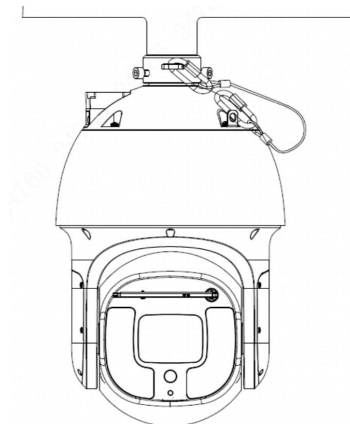

Figure 2-4
Step 4 Confirm that the screws on the quick mounting connector are firmly tightened, the safety buckle is reliably connected and the speed dome is firmly fixed. The speed dome installation is completed after confirmation. See Figure 2-4.